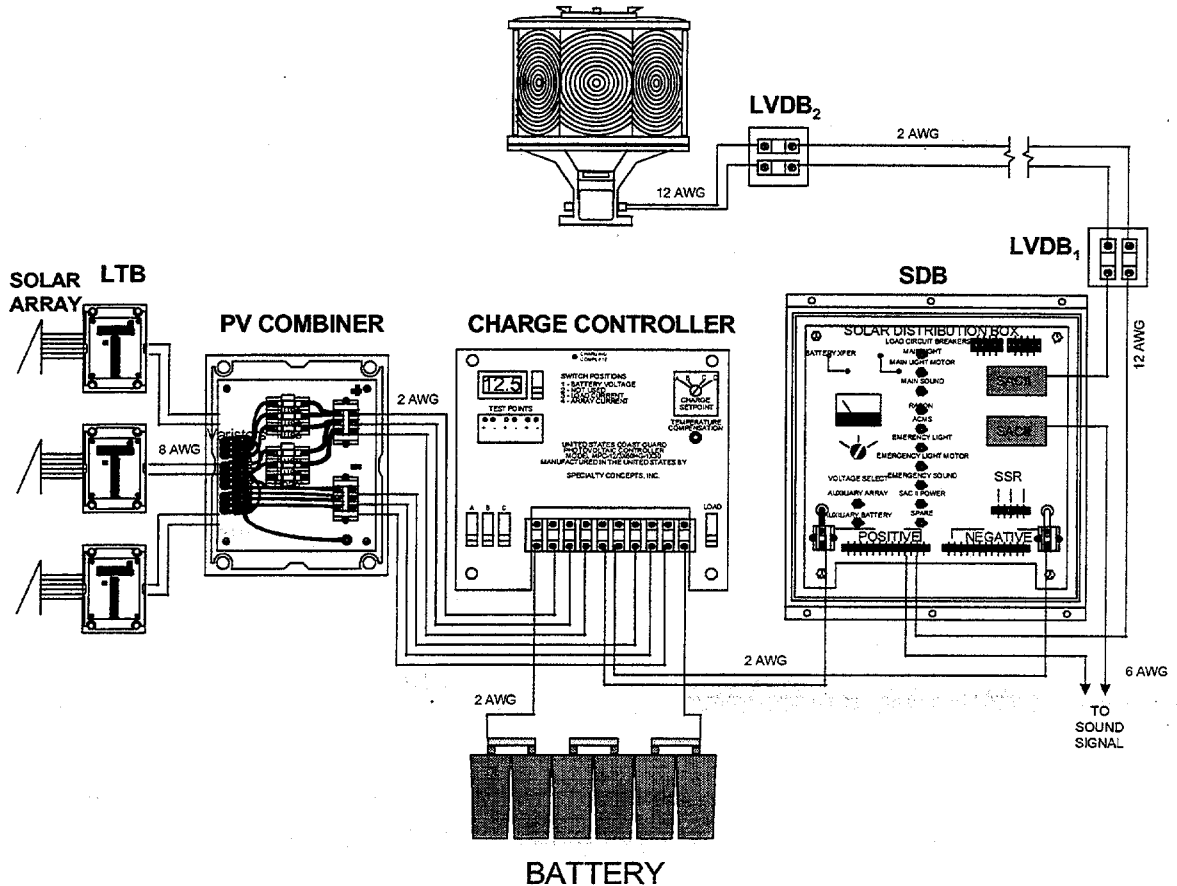

Figure 6
- F. Example - Lighthouse. Figure 6 is a typical solar powered lighthouse. This aid has 18 40 watt solar panels (battery size is unimportant), a VRB-25 main light with 50 watt lamps and a FA-232/02 sound signal. The array is 25 feet from the charge controller and the main light and sound signal are 60 feet from the SDB. The main